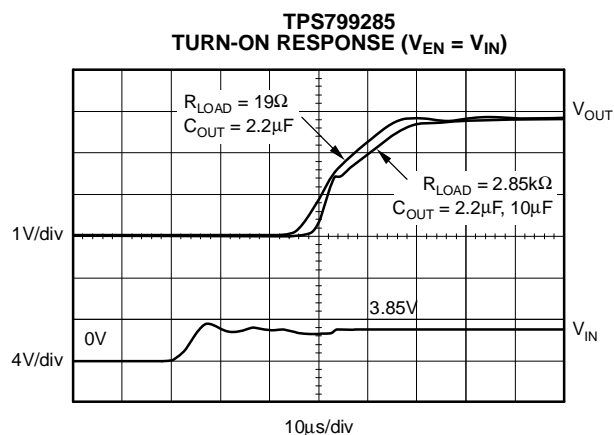
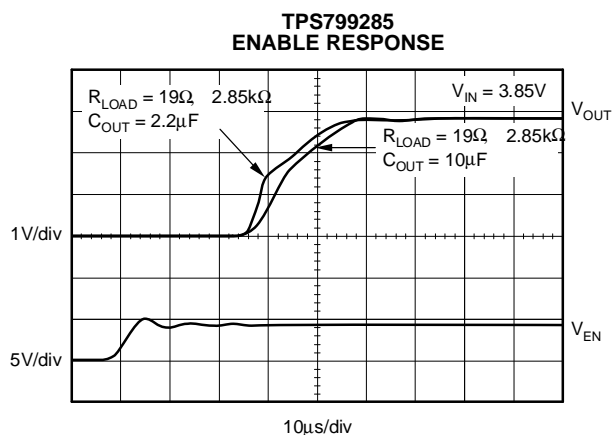

Figure 25.
Figure 26.
Note that for fastest startup, V_{IN} should be applied first, then the enable pin (EN) driven high. If EN is tied to IN, startup will be somewhat slower. Refer to Figure 25 and Figure 26 in the **Typical Characteristics** section. The quick-start switch is closed for approximately 135 μ s. To ensure that C_{NR} is fully charged during the quick-start time, a 0.01 μ F or smaller capacitor should be used.